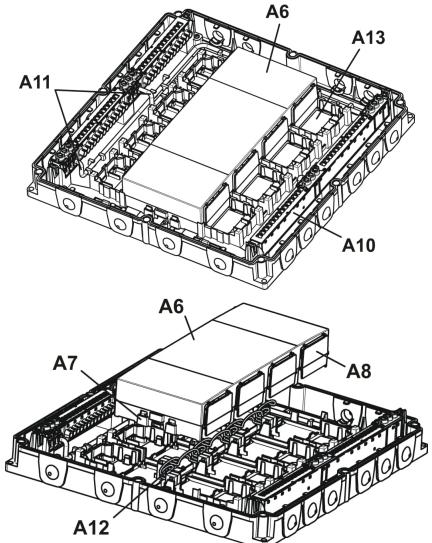

figure 3: Mounting / Dismounting the SELV (class 2) cover
• Dismounting an RS module (Figure 3-b):
• Mounting of an RL module (Figure 3-c):
- Dismounting an RL module (Bild 3-d):